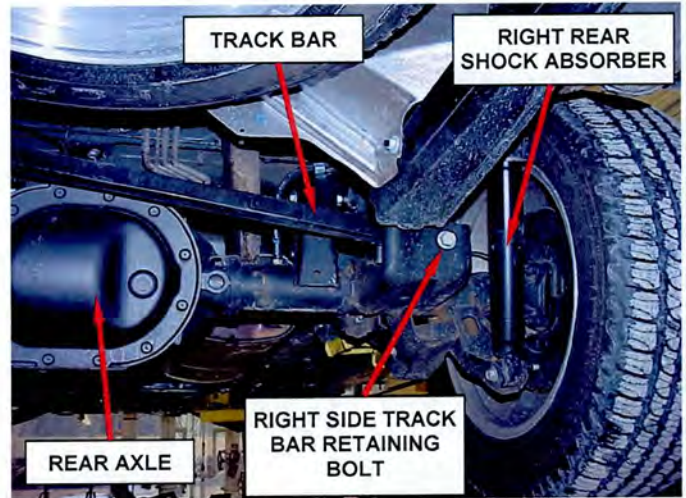

Figure 1 – Right Side Track Bar Bolt
b. Remove the right side (axle side) track bar retaining bolt (Figure 1).